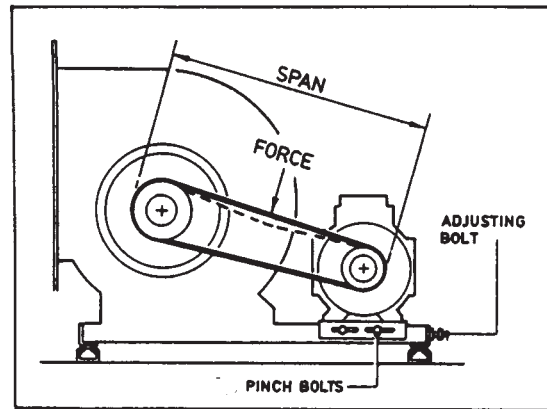

Fig. 7 Tensioning the drive belts.
1. Measure the span length. (See fig.7).
2. At the centre of the span, apply a force at right angles to the belt sufficient to deflect one belt 16mm for every metre of span length. (See fig.7). The force required to deflect the V belt should be from 0.5kg to 0.8kg.